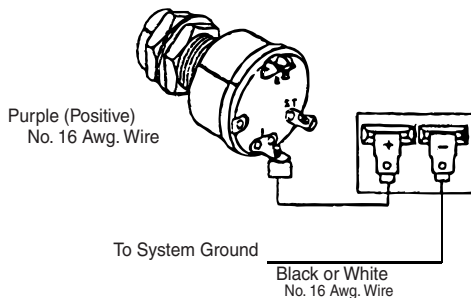

Figure 2
1. Using Purple wire, run a lead from '+' (ignition) terminal of gauge to 'IGN' terminal of ignition switch (See Figure 2).